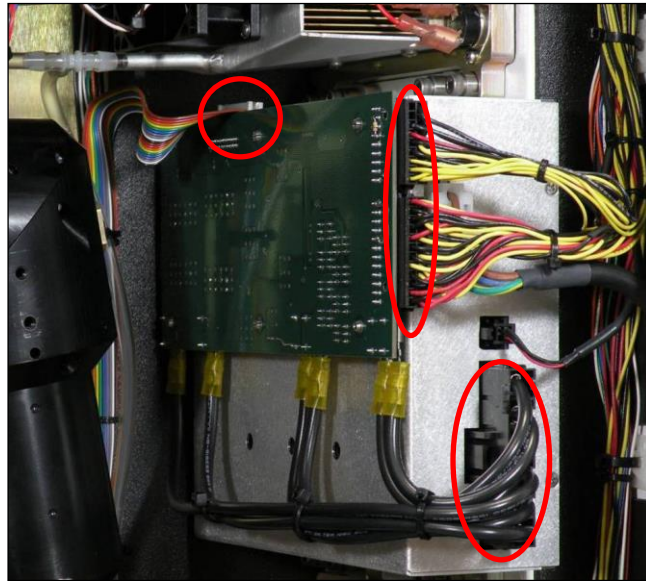

Figure 121. Five connectors to remove
2. Disconnect five electrical connectors – 2 on the circuit board, 2 on the power supply, and 1 on top in the back. Do NOT remove the large black connector on the bottom of the power supply (Figure 121).